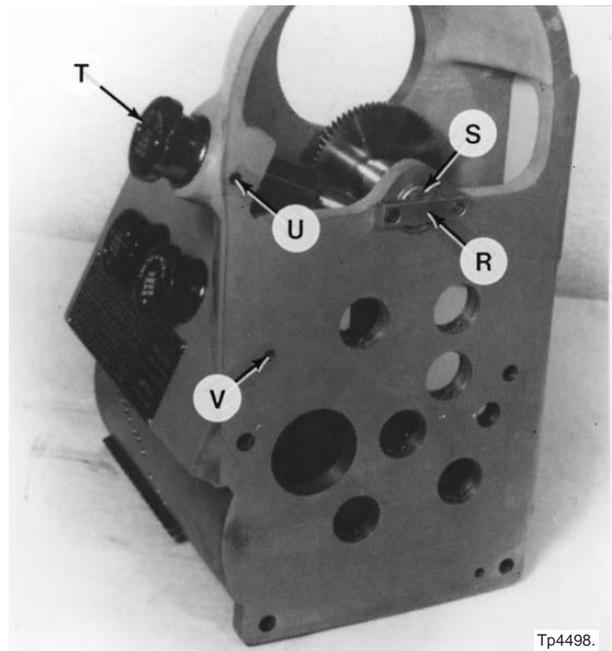

Figure 4.42 - Idler Shaft Rear Bearing
5. Remove stop block "R", Figure 4.42, and bearing "S".
- a) Remove lock screw "V", Figure 4.42 .